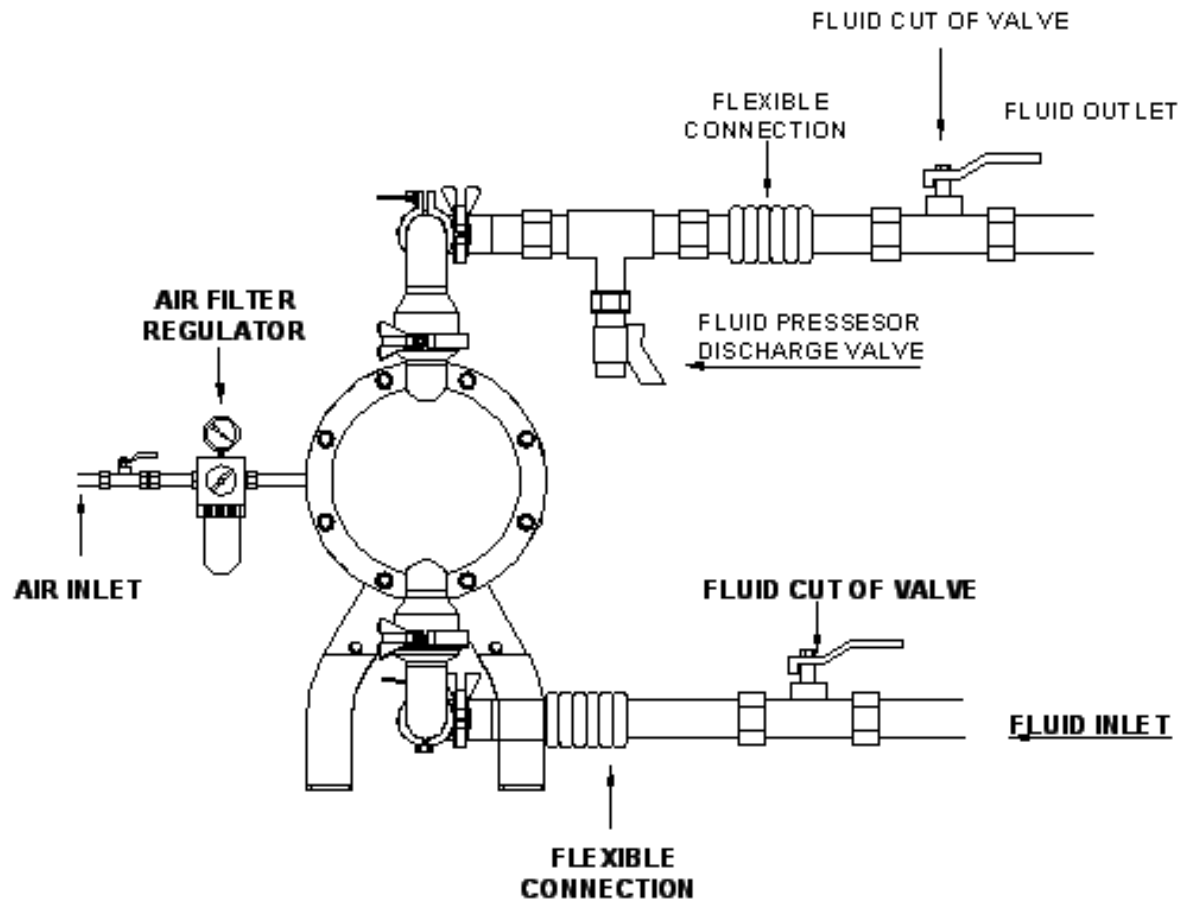

Figure 7- Typical installation scheme
A typical setup configuration is shown in figure 7. Further information and consultation on pump setup can be provided by your Ran Pump distributor.
A bleed-type master air valve is required in your system to relieve air trapped between this valve and the pump. Trapped air can cause the pump to cycle unexpectedly, which could result in serious injury, including splashing in the eyes or on the skin, injury from moving parts, or contamination from hazardous fluids. See Fig. 7.
- 1-Refer to the Figure 7 for the connection scheme. Fix these accessories to the wall or to a bracket. The air line feeding the accessories must be grounded.
**5.6.1 For the pump:** Use a conductor (for grounding) with a cross-section of at least 1.5 mm2. Connect the conductor to the pump's leg as shown on Fig. 7, and the other end to the grounding line.